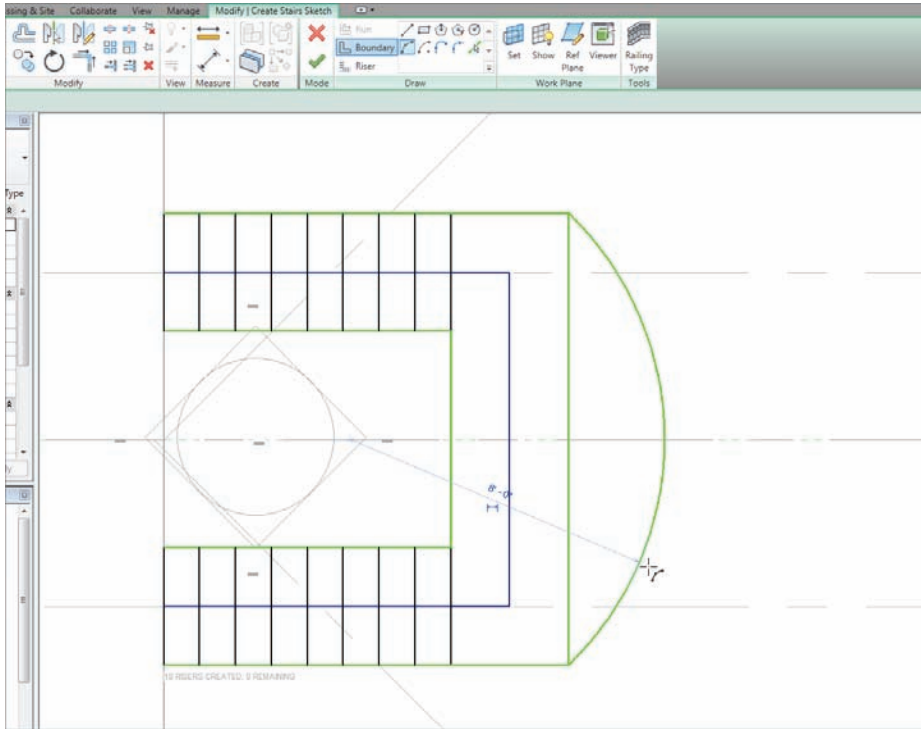

FIGURE 10.8 Add a radius to the outside of the landing.
2. On the Draw panel, click the Start-End-Radius Arc button, as shown in Figure 10.8.
3. Draw an arc on the outside of the landing at an 8'-0" (2400mm) radius, as shown in Figure 10.8.